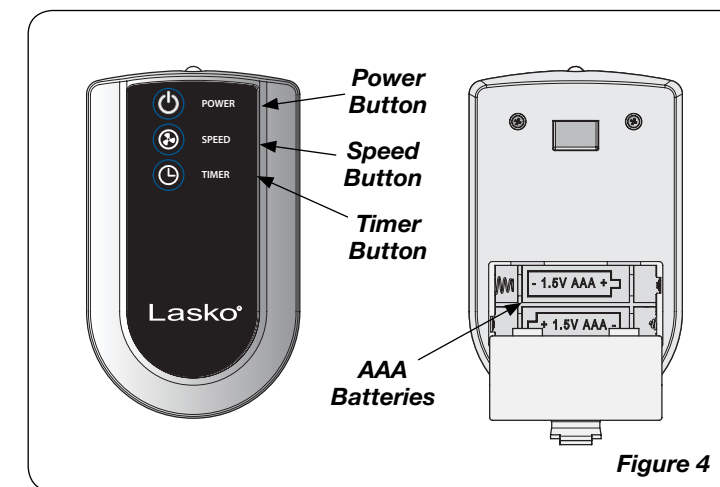

Figure 4
- Install batteries (not supplied) as shown in Figure 4. The battery is type "AAA".